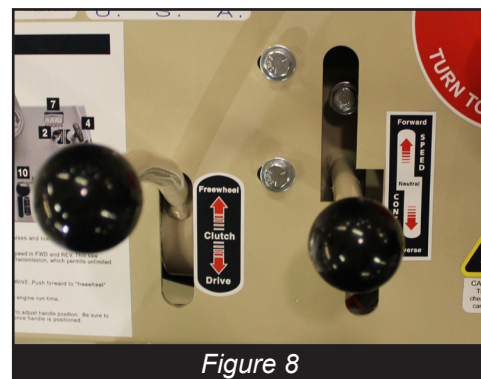

Figure 8
- Move CLUTCH lever to DRIVE position and adjust SPEED CONTROL (Figure 8).
- Push Clutch Lever forward, away from operator to the FREE WHEEL position; this will stop all forward motion. (Figure 8)